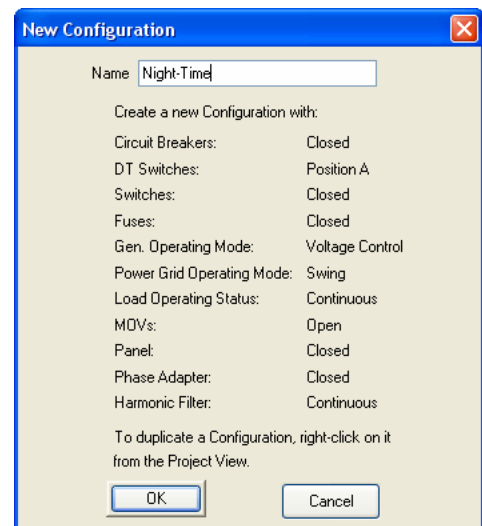

Fig. 3
- (d) Enter the desired name for that configuration. For an exercise, let’s enter “Night-Time” and click “OK” button. Note the pre-assigned status of the equipments and devices. See Fig. 3
- (d) Enter the desired name for that configuration. For this exercise, let’s enter “Night-Time” and click “OK” button. Note the pre-assigned status of the equipments and devices. See Fig. 3.